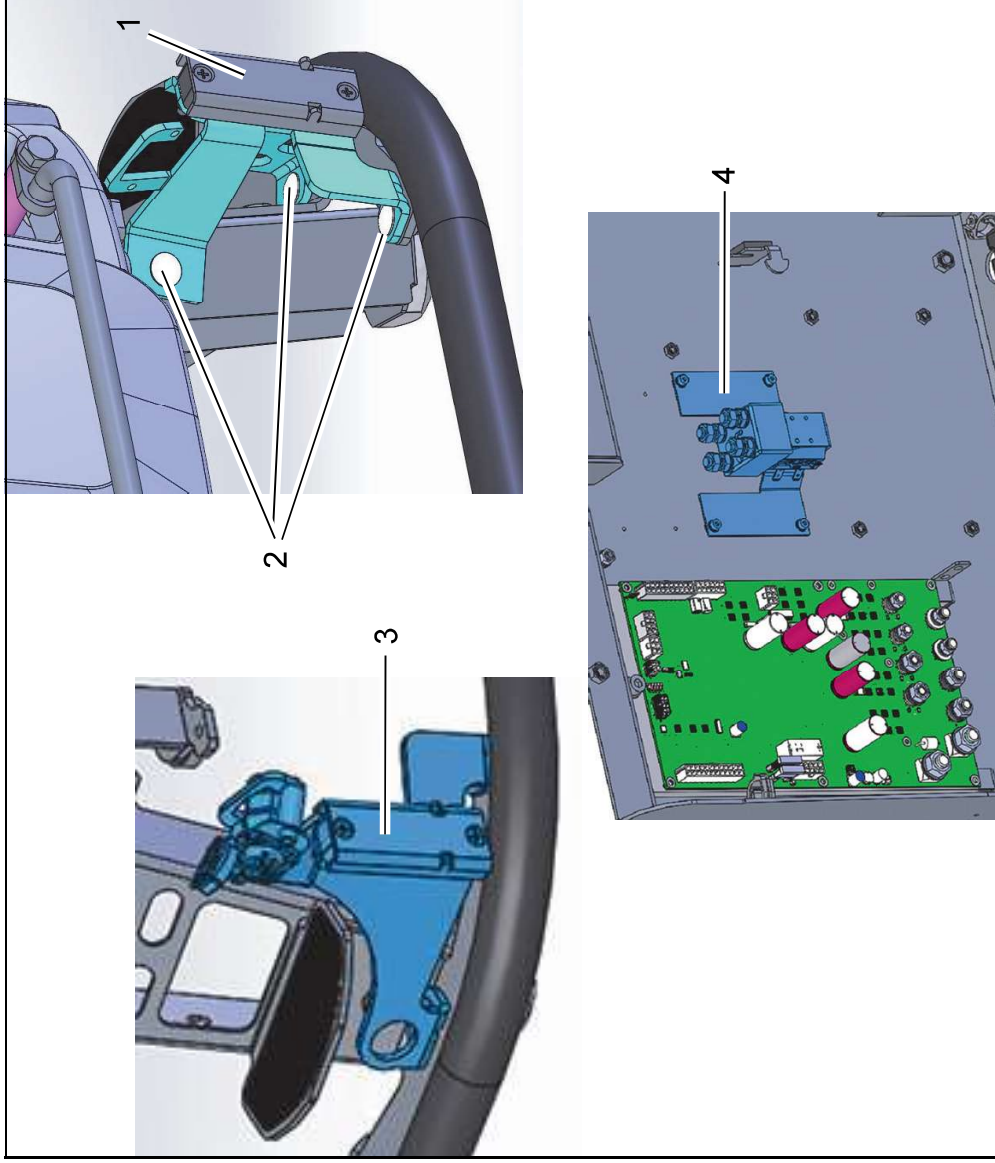

Fig. 3
1. Fit left-hand holder (Fig. 3/1) with three M8x25 round-head screws, 8.4 washers and the M8 nuts to the front left of the chassis (Fig. 3/2).
2. Fit right-hand holder to the right side of the vehicle accordingly (Fig. 3/3).
Secure the electrical connector (Fig. 3/4) to the electronics plate with the M4x10 cylinder-head bolts and the washers.